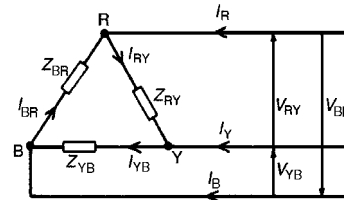
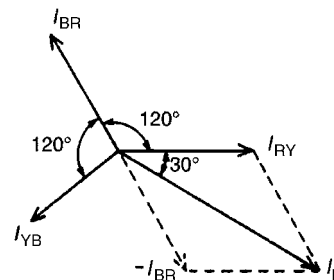

Figure 20.10
Figure 20.11
- (i) A **delta (or mesh) connected load** is shown in Fig. 20.10 where the end of one load is connected to the start of the next load.
- (ii) From Fig. 20.10, it can be seen that the line voltages V_{RY} , V_{YB} and V_{BR} are the respective phase voltages, i.e. for a delta connection:
- (iii) Using Kirchhoff's current law in Fig. 20.10, $I_R = I_{RY} - I_{BR} = I_{RY} + (-I_{BR})$. From the phasor diagram shown in Fig. 20.11, by trigonometry or by measurement, $I_R = \sqrt{3} I_{RY}$, i.e. for a delta connection: